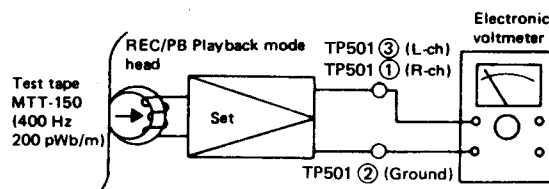

Figure 14-3
- Connect instruments as shown in Fig. 14-3, and adjust variable resistor VR401 or VR402 so that the playback sensitivity is as shown in Table 14-3.